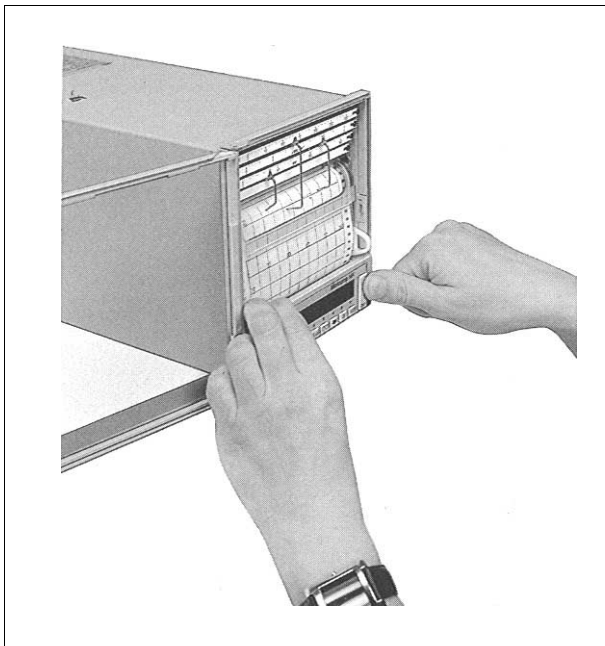

Fig. 6
(see Figs. 6...10)
1. Unlock slide-in unit and pull towards the front (see Figs. 6 and 7).